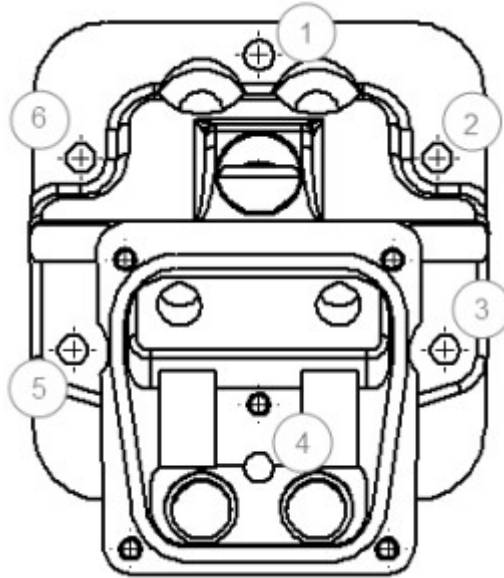

Figure 3.1: Cylinder head bolt numbers.
4. Refer to figure 3.1 and tighten head bolts in a procedural manner intermittently, applying maximum specified torque to each bolt at the end of the exercise. Tighten the head bolts to 18 lb.ft (24.4 N.m). Follow the standard cylinder head tightening procedure using a 1/4" Allen Key. #1 - #5 - #3 - #6 - #2 - #4.